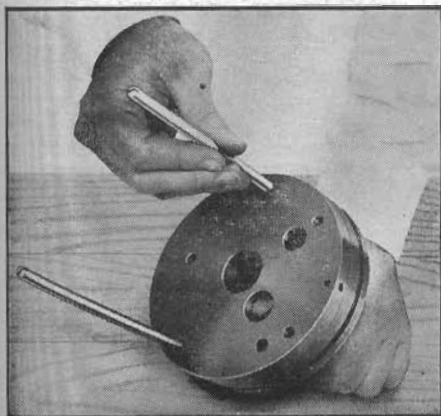

Fig. 60 Guide pins in front pump. 1950-59
5. Align holes in stator support with holes in front oil pump body and install two $\frac{1}{4}$ -20x3 $\frac{1}{2}$ " guide pins in front pump, Fig. 60. Install pump to turbine housing, using pump driver J-4263.